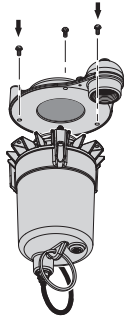

Figure 8
3. Remove the three screws holding the motor to the base and lift the motor off the base (Figure 8).